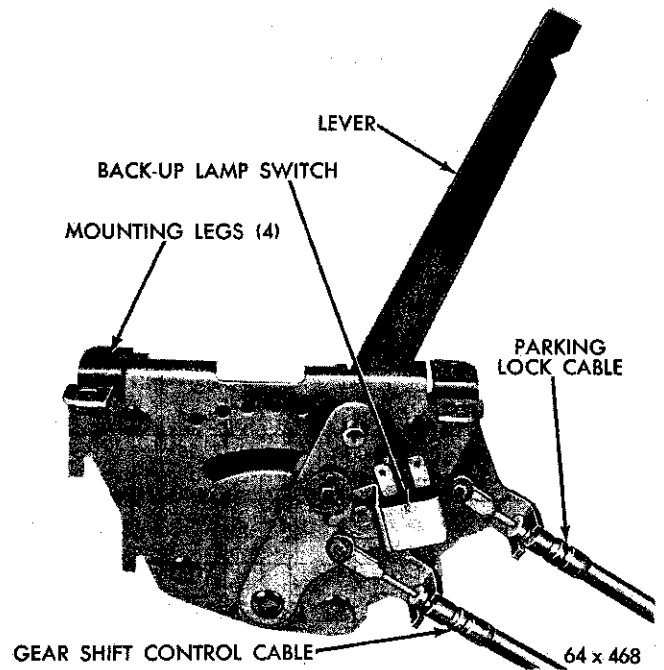

Fig. 16—Console Gearshift Unit
(5) Connect the back-up lamp switch wire connector (if so equipped) . . . Connect the battery ground cable.
6. CONSOLE GEARSHIFT UNIT (Fig. 16)